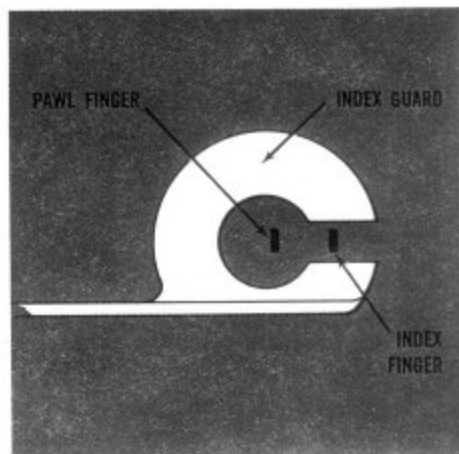

Fig. 15
11. Loosen index guard screw, and turn index guard back into position, being careful not to damage the index finger or pawl finger. Tighten screw. Using the microscope, tip the movement into a suitable position and observe the clearance between the index finger and the guard. With the guard in position, the index finger should pass through a point slightly inside the center of the slot in the guard (see Fig. 15). The index finger should not touch either side of the slot. If it does, bend the guard up or down slightly to center the index finger, making sure also that the pawl finger does not touch the guard.